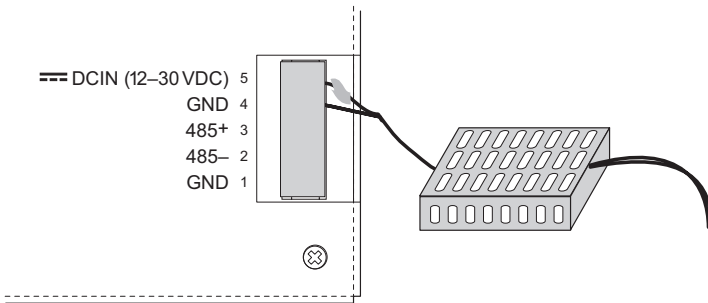

Figure 2-2. OP7100 Power Supply Connections
3. Plug the connector back into the power connection at the back of the OP7100. Watch the polarity of the connection so that the banded wire from the power supply goes to DCIN as shown in Figure 2-2.